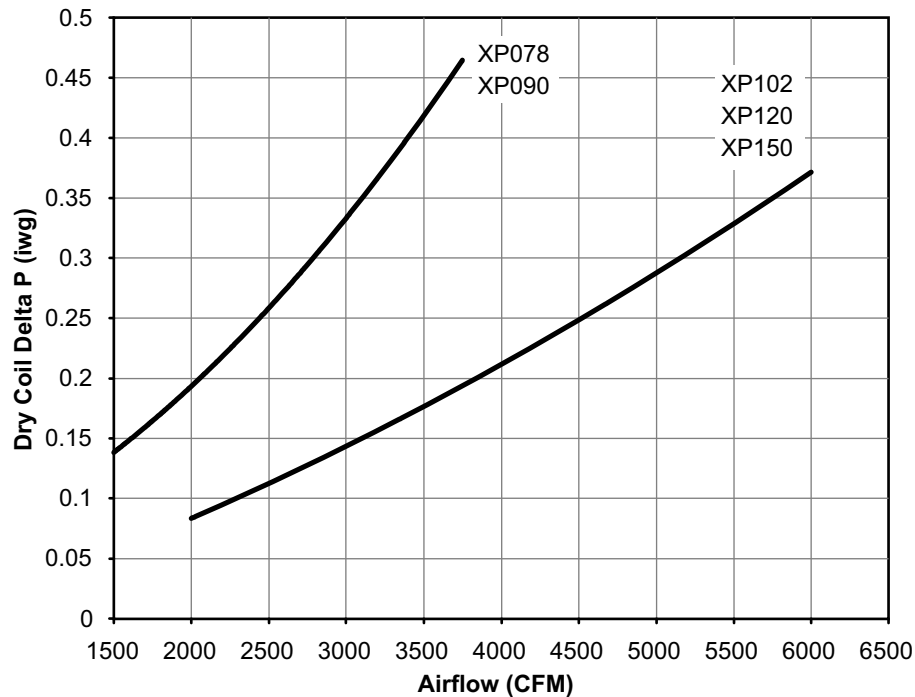

Figure 28: Dry Coil Delta P
- The CFM through the unit can be determined from the pressure drop indicated by the manometer by referring to Figure 28. In order to obtain an accurate measurement, be certain that the air filters are clean.